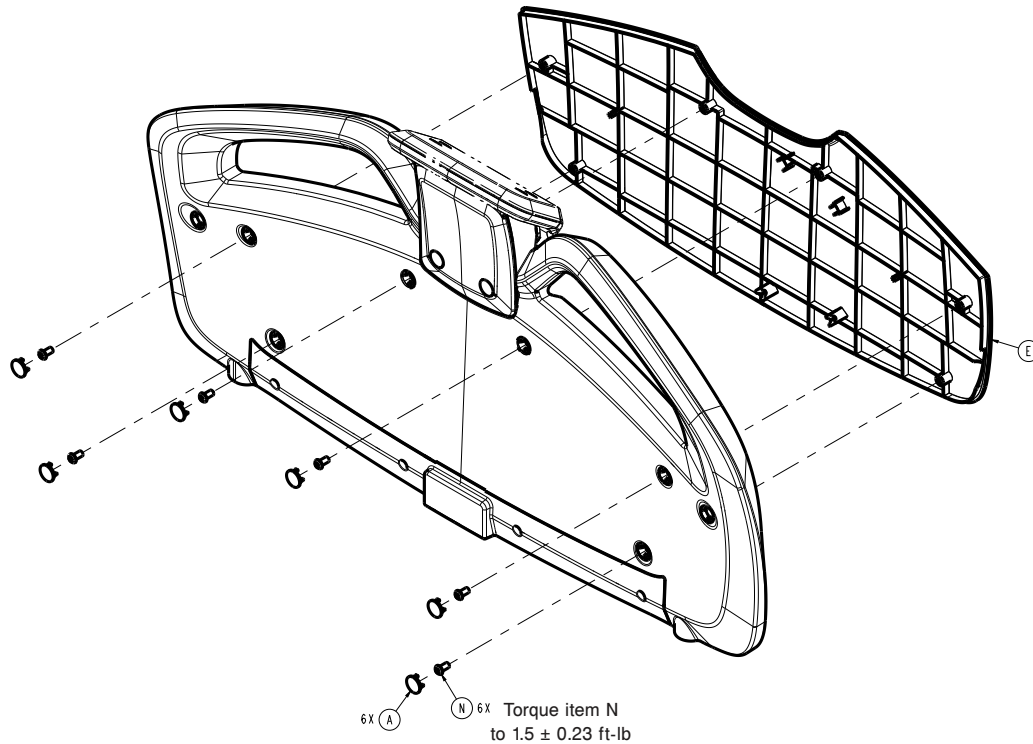

Figure 35 – Footboard housing
5. Using a pick, remove the six screw covers (A) from the back side of the footboard (Figure 35). Discard the screw covers.
6. Using a T27 Torx driver, remove the six screws (N) that secure the front footboard cover (E) to the footboard (Figure 35). Remove the front footboard cover.